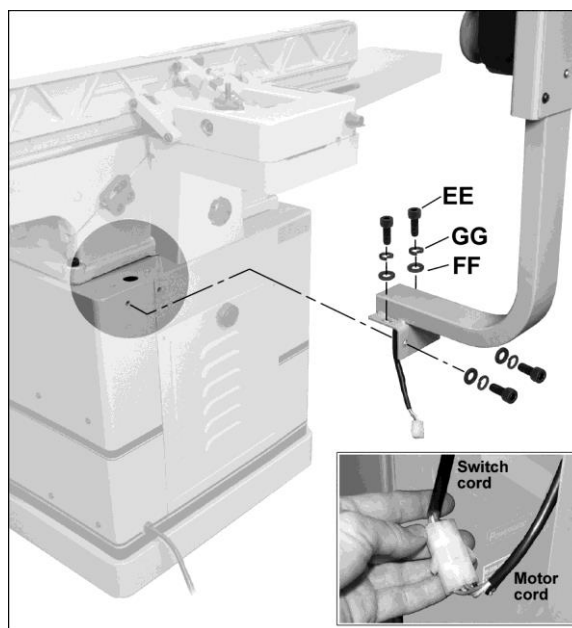

Figure 10
Refer to Figure 10.
2. Secure the switch arm with four *5/16"-18 x 3/4" socket head cap screws* (EE), four *5/16" lock washers* (GG), and four *5/16" flat washers* (FF), using a 6mm hex wrench.
3. Open the stand door, and join the connectors of the switch cord and motor cord, as shown in the detail in Figure 10.